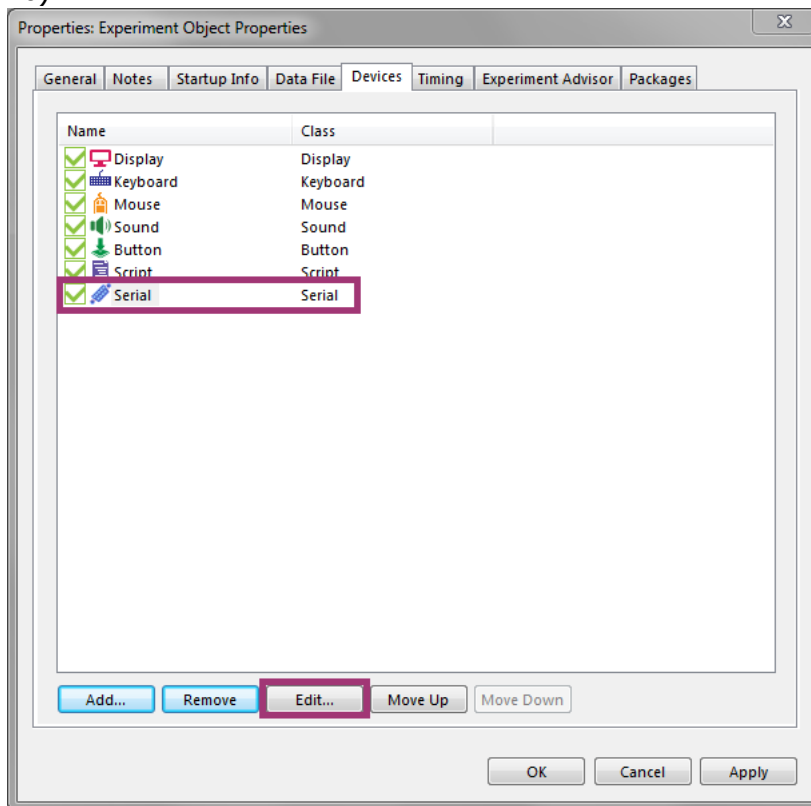

Figure 10: E-Prime Device List
- 5) Back in the Devices tab, select the newly added serial device and click **Edit...** (Figure 10).